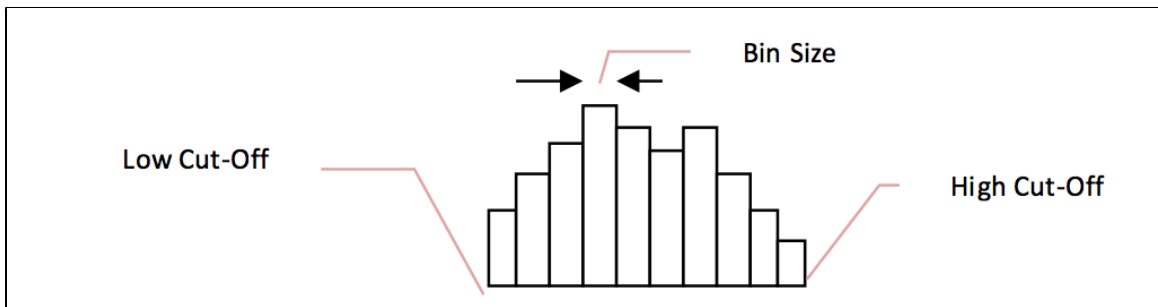

Figure 17. Illustration of high and low cut-off and bin size.
- **High Cut-off:** Used to define the upper limit of the region of interest (ROI) in the spectrum. The spectrum above this value will not be saved or used in calculations. (Figure 17)
- **Low Cut-off:** Used to define the lower limit of the region of interest (ROI) in the spectrum. The spectrum below this value will not be saved or used in calculations. (Figure 17)
- **Bin size:** The width (nm) of each bin that the spectrum is recorded in. (Figure 17)